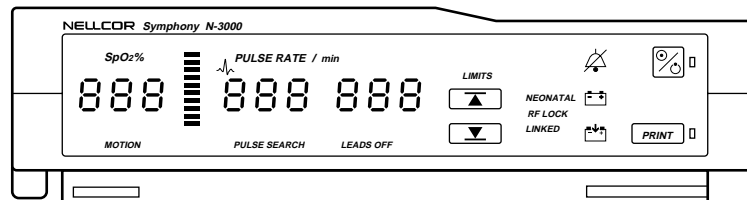

Figure 3-1: Self-Test Display
- b. All indicators light for a few seconds as illustrated in Figure 3-1. Verify that the SpO₂ % (left-most display), PULSE RATE (middle), and AUXILIARY (right) displays all indicate “8.8.8.”.